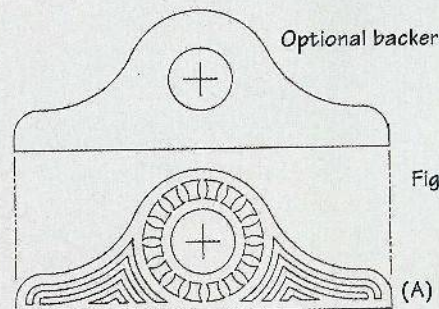

Fig. 1.
Step 11. As an option, cut the clock body (A) as one piece or as two thinner pieces whose combined thickness equals $3/4"$. For example, you might consider cutting the clock body at $1/2"$ thickness and then cutting a solid $1/4"$ backer board to go behind it (see Fig. 1). Sand the contour flush all around.